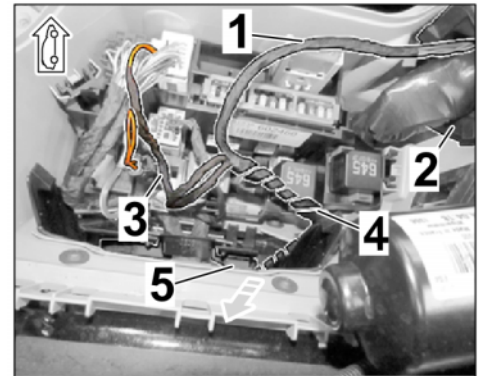

Figure 24
- 2.4.5 Carefully guide wire harness for engine noise control unit/pulse sender through the new opening (sleeve) into the fuse box (E-box) (⇒ Figure 24).